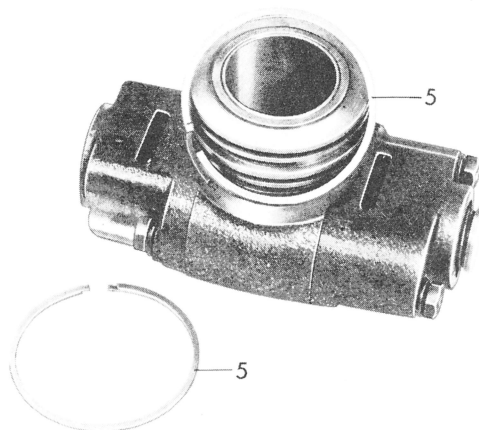

Fig. 1
1 Replace oil sealing rings (5) as required by disconnecting and removing oil sealing rings (Fig. 1).
14 Replace oil sealing rings (5), if removed, by inserting into grooves and attaching as required (Fig. 1).